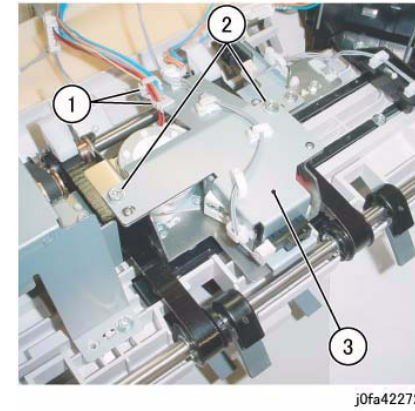

Figure 4 Removing the Bracket Assembly
10. Remove the Bracket Assembly (Figure 4):